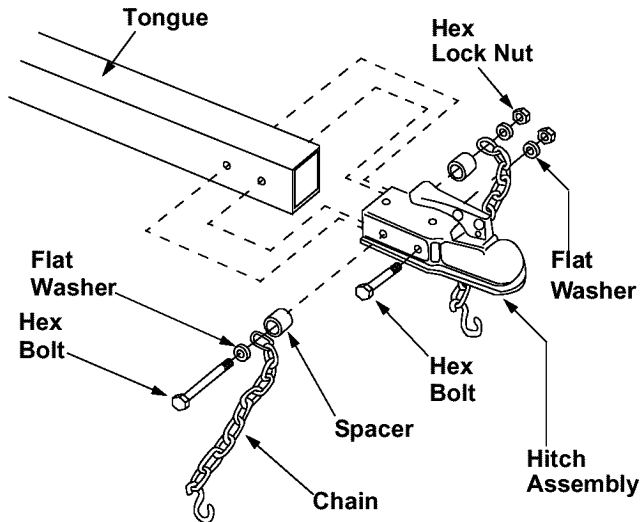

Figure 4
- Remove the hardware assembled on the hitch assembly and place the hitch on the end of the tongue. See Figure 4.
- Insert other spacer, safety chain, and flat washer on the other end of the hex bolt and secure with hex lock nut. See Figure 4.
- Insert hex bolt through the front hole of hitch and secure with flat washer and hex lock nut. See Figure 4. Tighten both hex nuts to 23 ft-lbs.